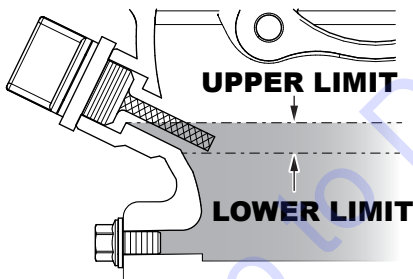

Figure 25. Engine Oil Level
4. If the oil level is low (Figure 25), fill to the edge of the oil filler hole with the recommended oil type as listed in Table 7. Refer to Table 3 for maximum engine oil capacity.